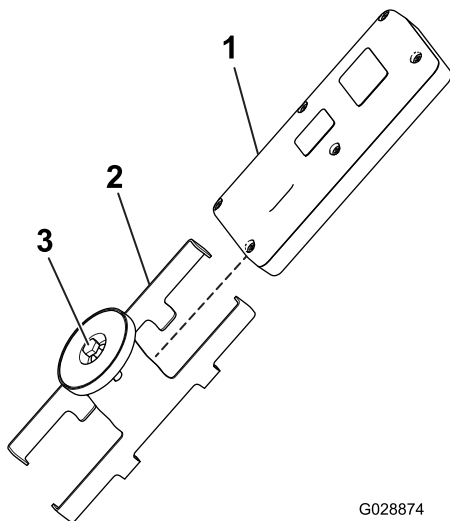

Figure 45
1. Loosen the bolt in the magnet on the magnetic remote bracket (Figure 45).
2. Slide the bracket sides apart and remove the remote (Figure 45).
8. Install the handheld remote into the magnetic remote bracket, slide the halves together to secure the remote, and tighten the bolt in the magnet (Figure 45).